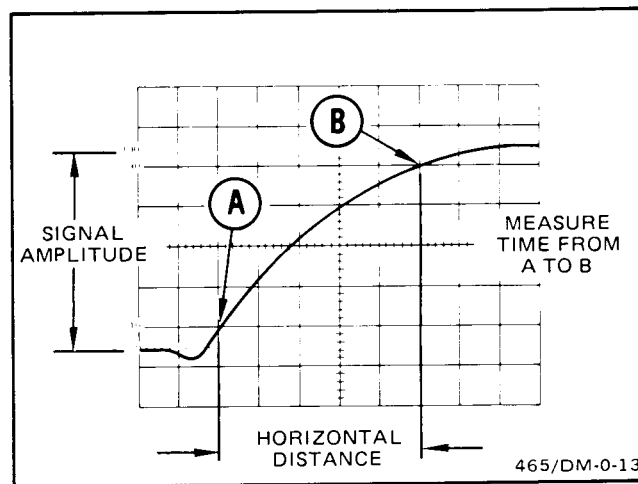

Figure 38. Rise time.
The rise time measurement uses the same method as time duration, except that the measurement is made between the 10% and 90% points on the leading edge of the waveform (see Figure 38). Fall time is measured between the 90% and 10% points on the trailing edge of the waveform.
6. Horizontally position the display so the 10% point on the waveform intersects the second vertical graticule line (see Figure 38).
EXAMPLE: The horizontal distance between the 10% and 90% points is 5 divisions (see Figure 38), and the TIME/DIV switch is set to 1 μs . A magnification factor of 1 is used.